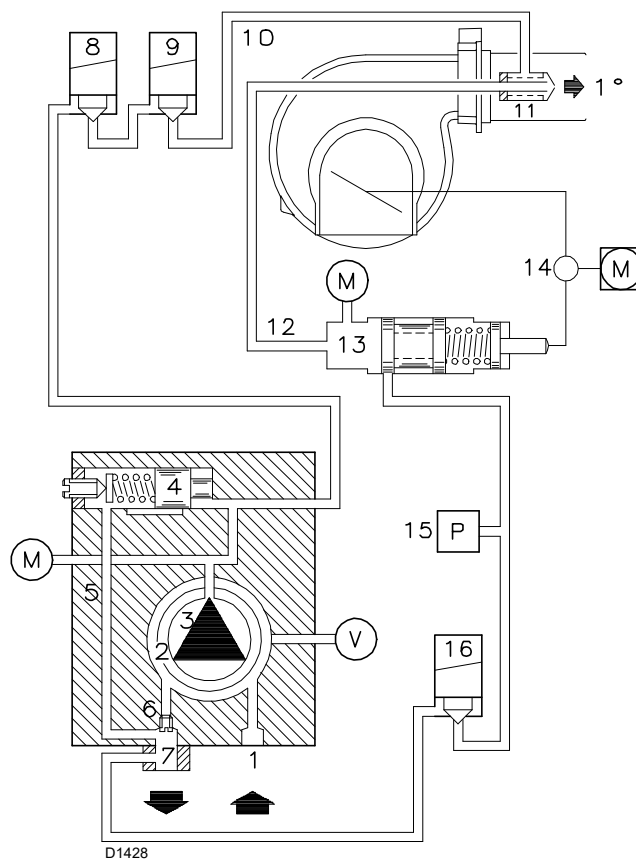

Fig. 20
They are installed on the burner with the by-pass closed by screw 6)(Fig. 20).
- remove the screw 6)(Fig. 20) (open by-pass) before making the hydraulic connections;